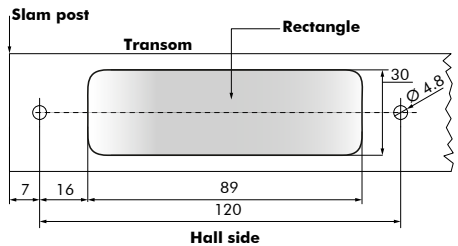

Figure 16: Template (Drilling and cutting out)
2. Drill two 4.8 mm (3/16 inch) diameter holes for the preassembled sensor into the transom with 120 mm distance from drilling hole to drilling hole (Figure 16).